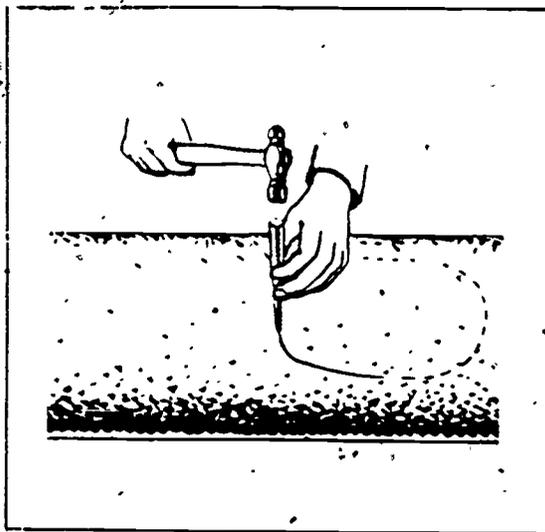

Figure 1-14 Cutting a hole in the main sewer
*Tapping the main sewer.* After the thimble is prepared, you are ready to tap the main sewer. You should install the thimble above the normal sewage flow line. You can determine the location for the hole by tapping the main lightly with a ball peen hammer. A dull sound indicates that you are tapping below the sewage level, and a ringing sound indicates that you are tapping above the sewage level. When you have determined the position of the hole, use the thimble as a pattern for marking the line of the hole with chalk. Make the cut on this line with a small cold or cape chisel and an 8-ounce ball peen hammer, as shown in figure 1-14. Use only light blows when you make the cut, because if you damage the main sewer you will
**Exercises (203):**